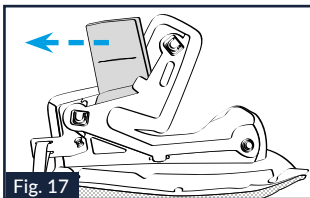

Fig. 17
- 13.4.** Gently remove the inner expanding foam padding from the fabric lining of the cheek pad (Fig. 17).
- 13.5.** Remove the upper part of the inner pre-punched padding (Fig. 17), then correctly put back the remaining padding part in the cheek pad.
- 14.4.** Properly insert part of the previously removed padding in the fabric lining of the cheek pad (Fig. 17).